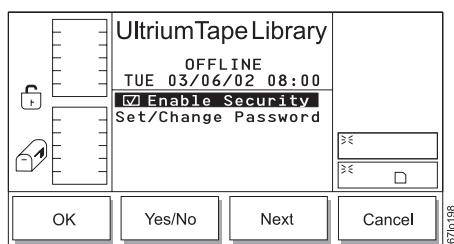

Figure 4-127. Security Enabled Dialog
5. Verify that the password is correct on the display, then press the button below the **OK** softkey. The Security Enabled Dialog displays with a checkmark beside the Enable Security field to indicate that security is currently enabled (see Figure 4-127).